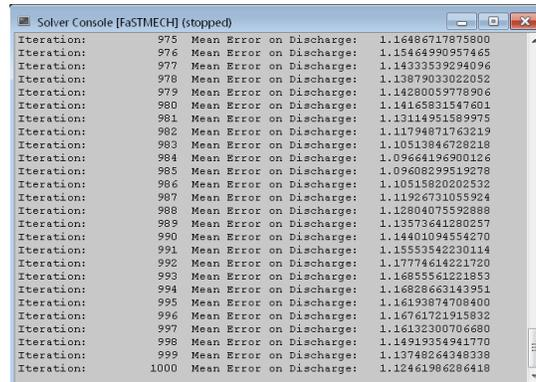

Figure 14. Example of the Solver Console.
- From the **Menu Bar** select Simulation ► Run. The warning dialog will open to ask whether you wish to save the current project. Select OK. After the project saves a Solver Console will open. This Console shows information about the simulation as the calculation is running (Figure 14). Note that the Solve Console displays the “mean error on discharge.” Typically this value should decrease as the simulation converges until it reaches a low value (typically values less than ~3 percent) and stabilizes. A dialog opens to notify you when the calculation is complete. Click OK to close the dialog.